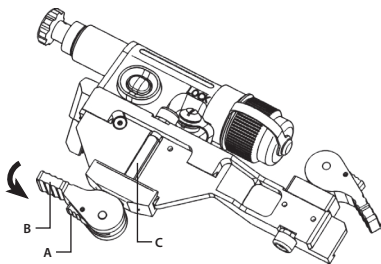

FIGURE 3-9. CLAMPING DEVICE ON THE MOUNT UNDERSIDE
Mount the AIM-PRO to a weapon as follows (refer to Figure 3-9):
1. Unlock the clamping device beneath the mount by pushing the lever holder (A) down and turning the lever (B) towards the arrow (backwards).
2. Install the AIM-PRO on the weapon using a Picatinny/ Weaver rail. The stop (C) must be inserted into one of transverse slots of the weapon rail.
3. Secure the AIM-PRO to the weapon rail by turning the lever (B) into the locked position, as shown in Figure 3-9. The clamping device must firmly hold the weapon rail. If necessary, adjust the clamping device as seen in Part 3.1.6 (Clamping Device Adjustment).